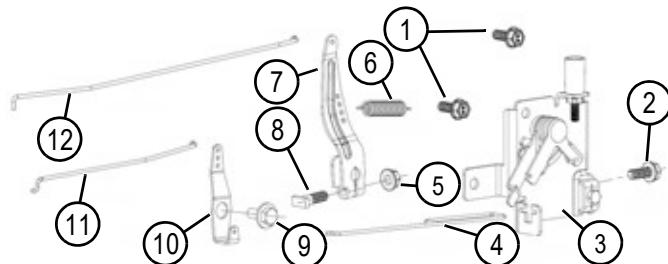

Figure 4-6: Control Lever Assembly
2. See Figure 4-6. Place one meter lead on the spark plug lead, and one on the coil ground as shown. Be certain grounding point is clean in order to obtain an accurate reading